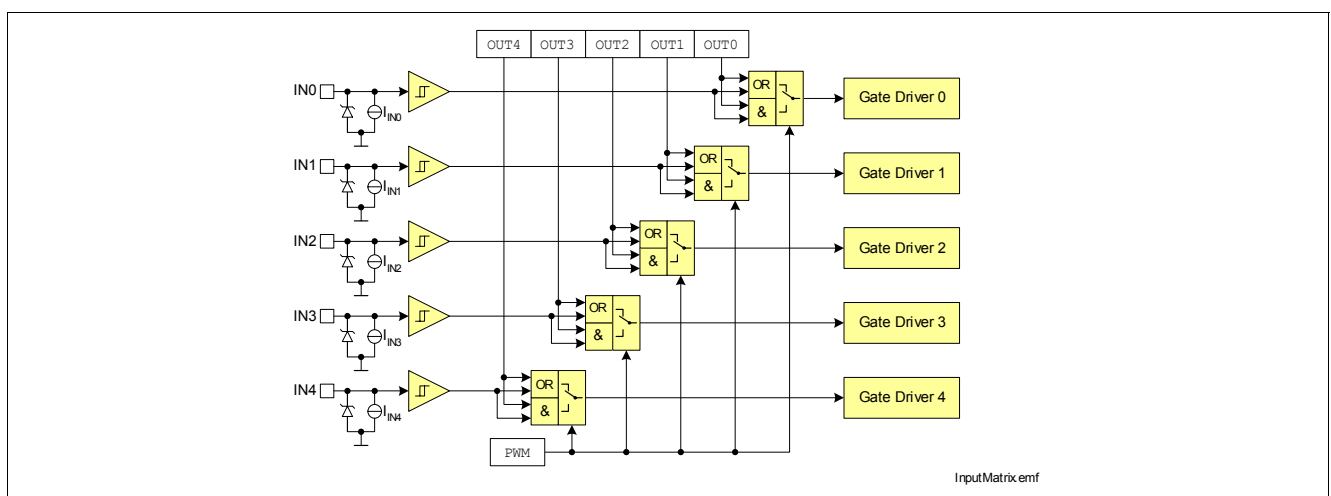

Figure 6 Input Switch Matrix
**Figure 6** shows the complete input switch matrix.